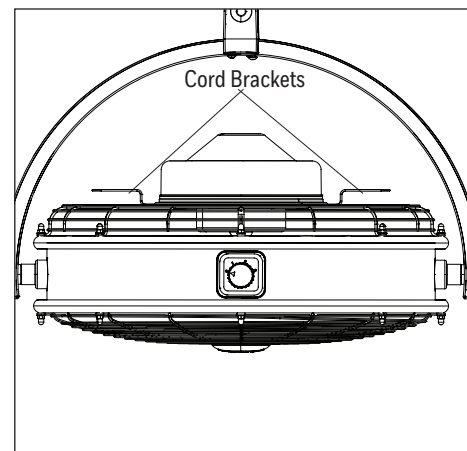

Figure 2.6
6. Cord Brackets are located on back of fan. When not in use, wrap power cord around the two cord brackets (Figure 2.6).